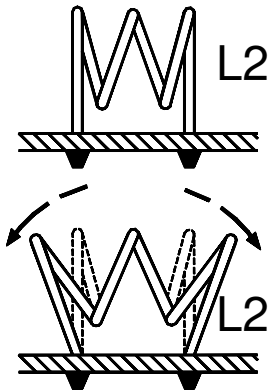

Fig 9.0
- "Expand" or "compress" (see fig. 9.0) also have an influence on the picture quality, and it is always necessary to close the housing before doing the test (if the test is done with an open housing then the settings will probably have to be done again after the cover has been put in place).